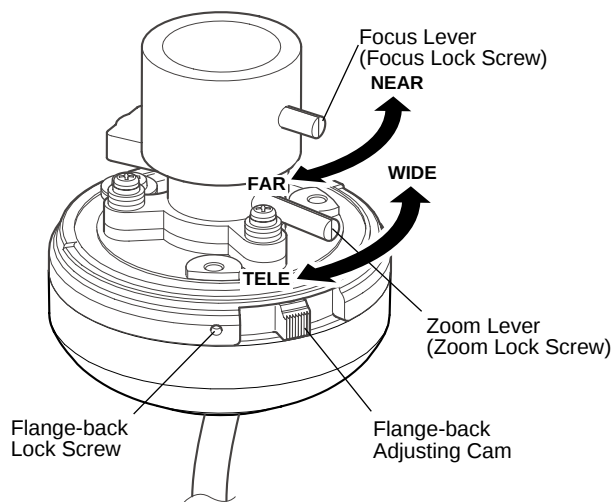

Fig. 4-1
- Referring to Fig. 4-1, loosen the Zoom Lock Screw at the tip of the Zoom Lever.